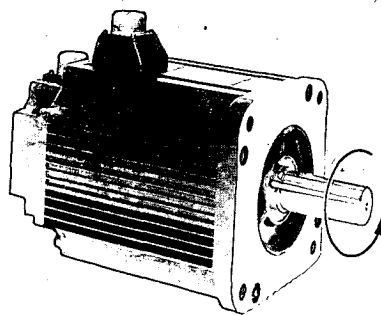

Fig. 11.2 Motor Forward Running
(1) Increase the speed reference voltage gradually from 0V, then the motor rotates at a speed proportional to the reference voltage.
(2) When the reference voltage is positive, the motor rotates in the forward direction (counterclockwise when viewed from the shaft extension.) (Fig. 11.2)